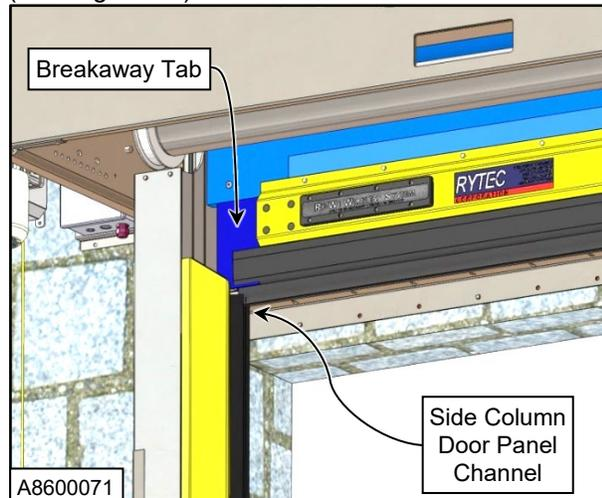

Figure 9
1. The breakaway tabs are knocked or popped out of the side column's door panel channel due to impact. (See Figure 9)